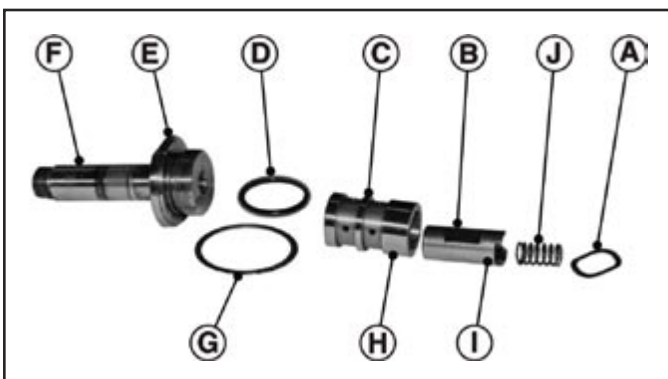

Fig. 9, PTO Solenoid Armature Disassembly
3. Remove solenoid cover (C), O-ring (D), and solenoid coil (E). Note order and direction of valve components for reassembly.
4. Remove solenoid armature assembly. (Fig. 9)